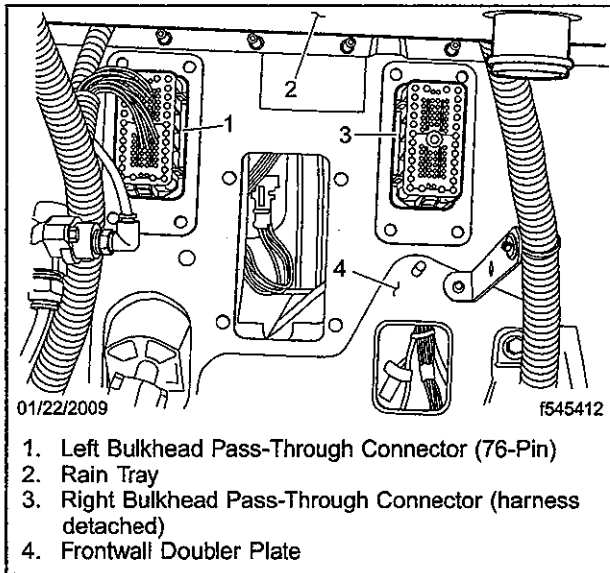

Fig. 13, Left-Side Frontwall
27. For vehicles in FL545B, replace the gaskets on both the 76-pin bulkhead pass-through connectors on the exterior frontwall, using the new gaskets from the kit, as follows. See Fig. 13.